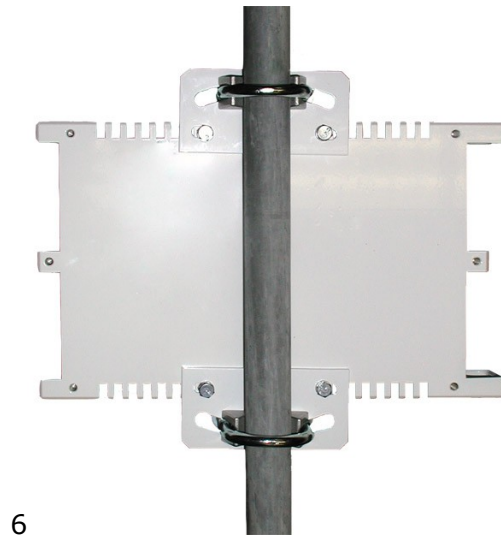

Figure 3-11. Completed Pole Mounting of ODU2200
53. Install U-bolts to ODU brackets and tighten. Assembled pole-mounted ODU2200 is shown in Figure 3-11.